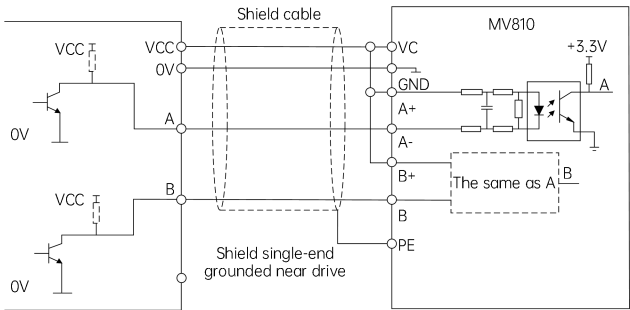

Fig. 4-20 Wiring diagram for open-collector PG
- (1) When the PG output signal is an open-collector signal, the wiring with the interface board is as shown in Fig. 4-20 (the broken line in the figure is the voltage-type output encoder):